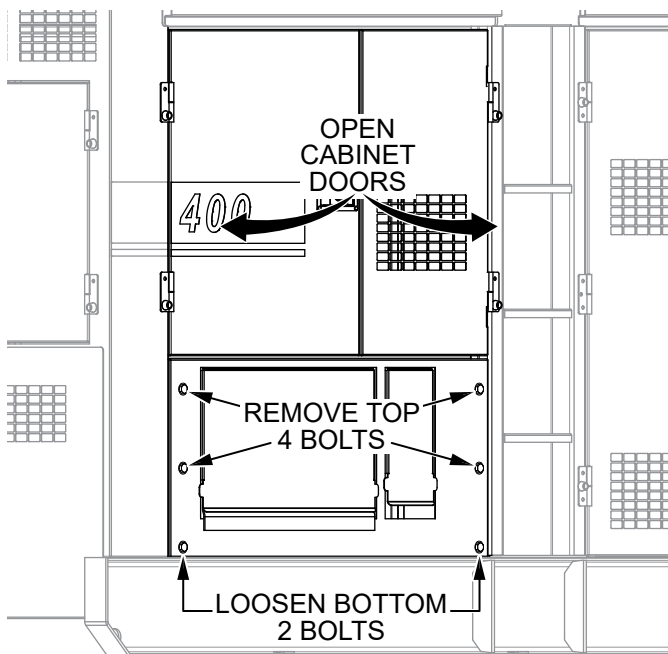

Figure 2. Bolt Removal
1. Open the cabinet doors just above the output terminal panel (Figure 2).
2. Using a 13 mm socket or open-end wrench, remove the top four bolts securing the output panel to the frame (Figure 2). Set the bolts aside for later.
3. **LOOSEN**, but **DO NOT REMOVE**, the bottom two bolts securing the output panel to the frame (Figure 2).